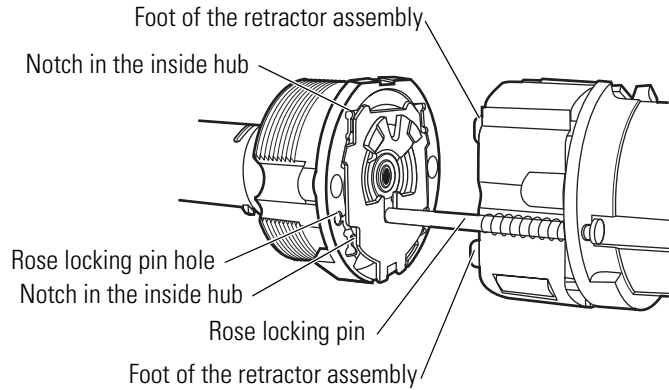

Figure 3.23 Installing the retractor assembly
8. Align the feet of the retractor assembly with the notches in the outside hub assembly, and the rose locking pin with the smaller of the two holes on the outside assembly, as shown in Figure 3.23. Press the retractor toward the retractor springs and slide the two sections together.